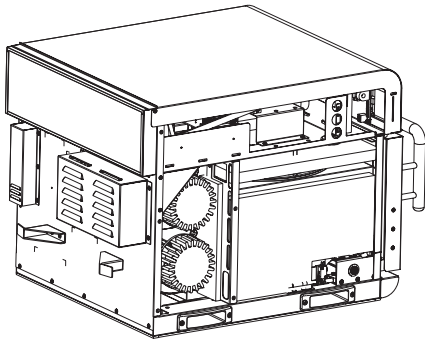

Figure 1: i3 Blower Motor Access
4. Remove the blower motor assembly from the oven (see figures 1 through 5).
4. Remove the blower motor assembly from the oven (see figures 1 through 5, page 2).